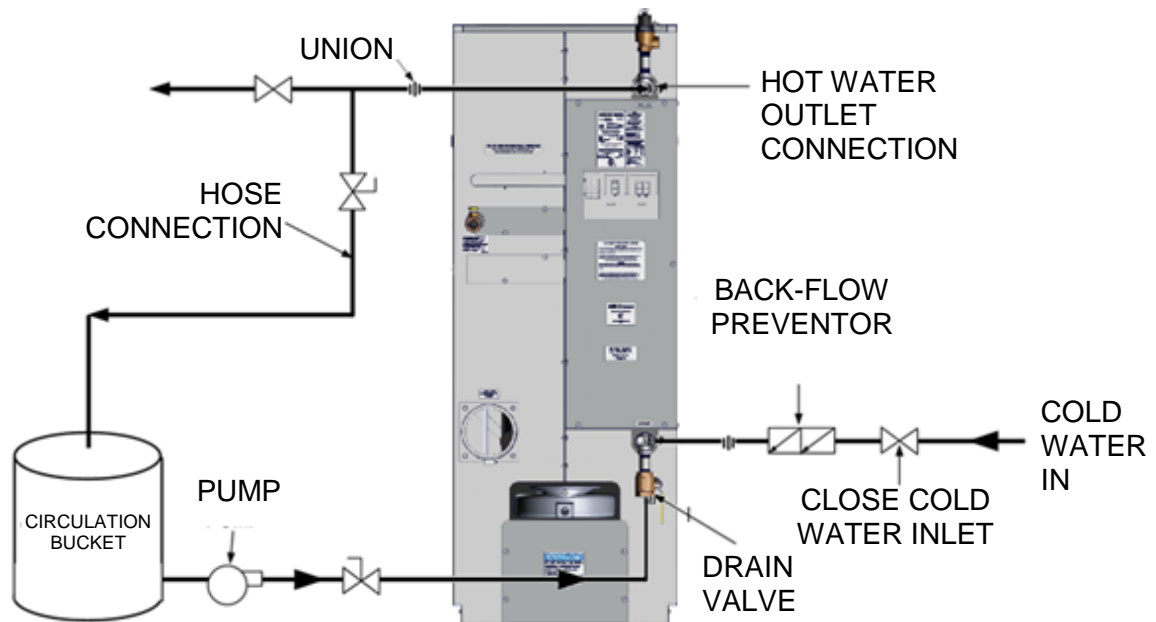

Figure 6-8. Sample Heat Exchanger Cleaning Set-Up
A sample pumping set-up diagram is shown in Figure 6-8 for an Innovation Hot Water Boiler. As this diagram shows, heat exchanger cleaning is accomplished by pumping the HydroSkrub solution from a large circulating bucket to the heat exchanger drain valve, through the heat exchanger and then out through the output connection of the heater. Set up the pumping system as follows:
5. Close the unit drain valve and connect a suitable size bucket and pump to the unit drain as shown in Figure 6-8.
6. Install a “T”, ball valve and hose connection in the outlet piping of the heater (Figure 6-8). Route the hose back to the top of the circulation bucket.